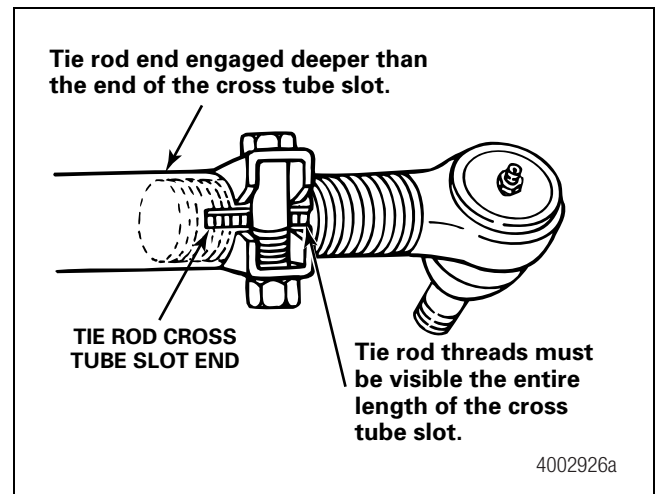

Figure 3.5
6. Check that the tie rod end is threaded correctly into the cross tube and installed deeper than the end of the cross tube slot. The tie rod end must be visible the entire length of the cross tube slot. Figure 3.5.